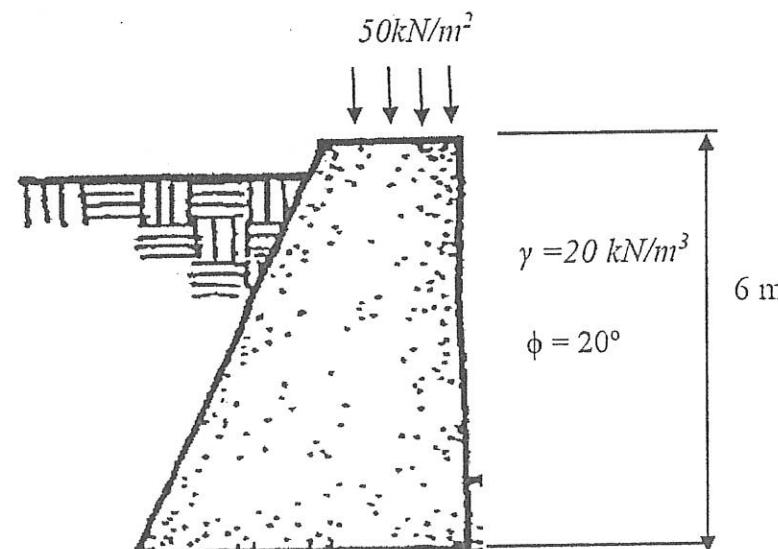

Figure 2b / Rajah 2b
- b) A smooth backed vertical wall is 6 m high and retains a soil with a bulk unit weight of 20 kN/m^3 and $\phi = 20^\circ$ (Refer Figure 2b). The top of the soil is level with the top of the wall and is horizontal. If the soil surface carries a load of 50 kN/m^2 ,